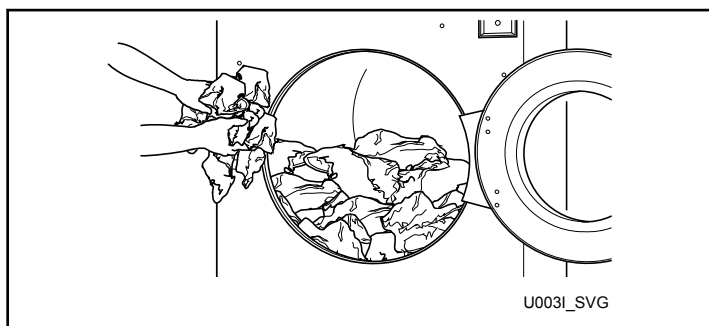

Figure 39
3. Load to capacity whenever possible. DO NOT OVERLOAD. Refer to *Figure 39*.